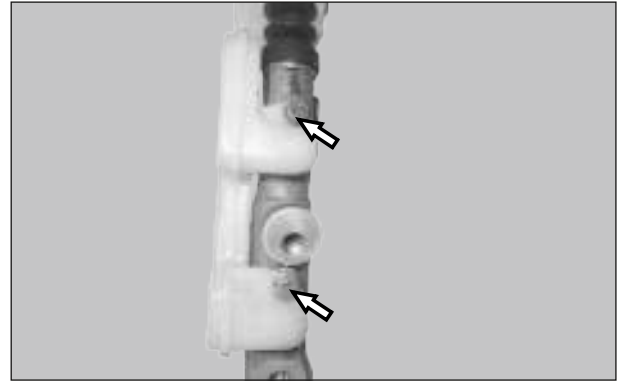

Fig. 5.59
- Loosen and remove 2 nos. Hexagonal flange bolt (M6x1.25x16) from reservoir assembly mounting.(Fig. 5.59)